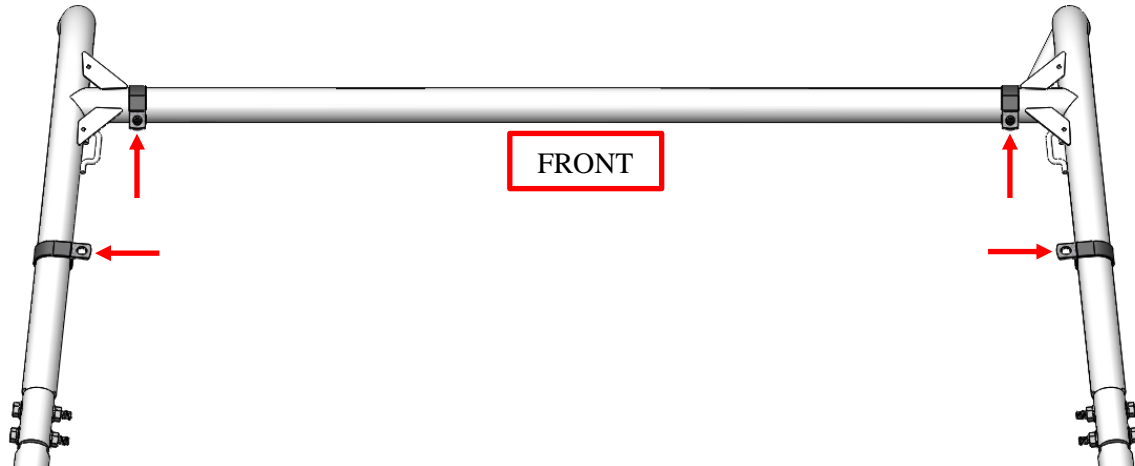

Figure 2: Approximate locations of the loop clamps.
2. Place the provided loop clamps in the approximate mounting locations on the roll bars. The *Audio Mini* brackets will mount to the loop clamps and be tightened in the following steps. See Figure 2.